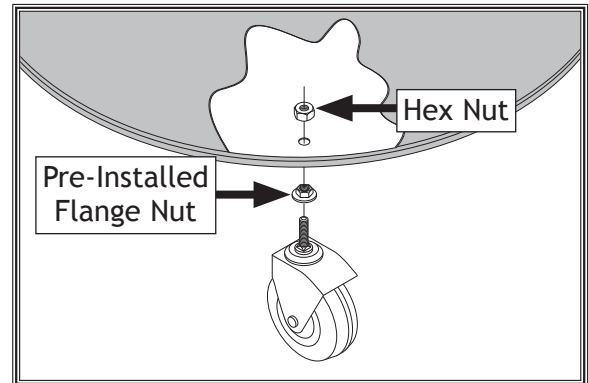

Figure 19. Cut-away illustration of 2" swivel caster attachment to collection drum.
16. Attach 2" swivel casters to collection drum, as shown in **Figure 19**, using (1) $\frac{5}{16}$ "-18 hex nut on each.
17. Adjust pre-installed flange nut and hex nut (see **Figure 19**) until drum rolls evenly without rocking or wobbling, then tighten both nuts to secure caster in place.